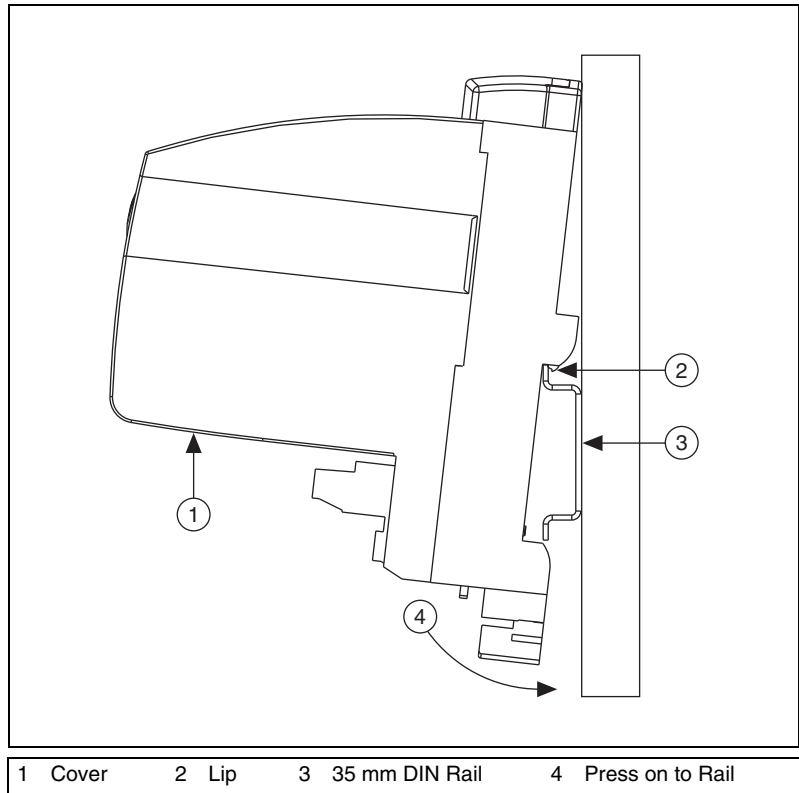

Figure 2-11. Mounting the FBUS-HSE/H1 LD on a DIN Rail
2. Hook the lip on the rear of the FBUS-HSE/H1 LD onto the top of a 35 mm DIN rail and press the FBUS-HSE/H1 LD down onto the DIN rail, as shown in Figure 2-11.